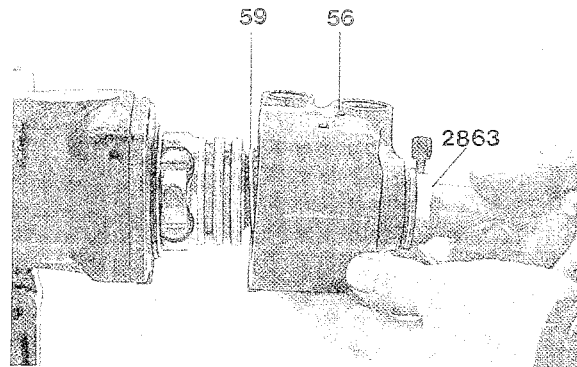

Fig. 6-90. Installing valve housing
11. Tension out the sealing ring (54) with tool 2863. Place the bearing (59) in position. Install the valve housing (56), see Fig. 6-90. The tightening torque for the bolts (50 and 52) is 34 Nm (3.4 kpm=25 lbft).